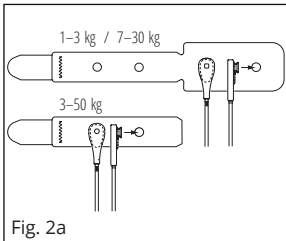

Fig. 2a
1. Locate the sensor attachment holes on the wrap. Orient the wrap so that the patient-contacting surface is on top. (see **Fig. 2a**)